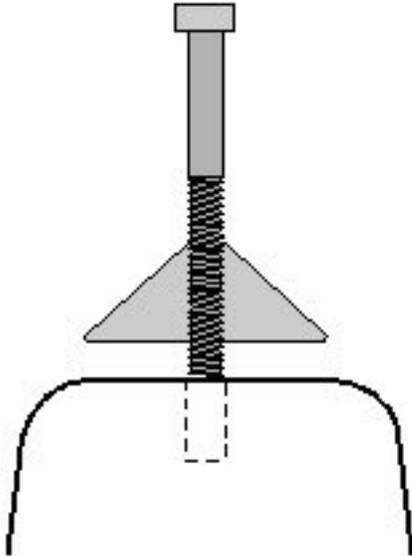

Figure 3
c. Lightly coat the threads of the 5/16" x 3" Anchor bolt with silicone grease and screw it into the Alignment Cone until it protrudes approximately 1/4" beyond the flat surface. (See Figure 3)